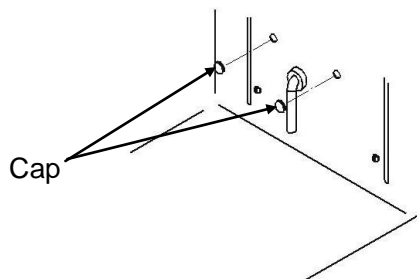

Figure 1
2. Take all duct out inside chamber and remove caps (2pcs) in figure 1.